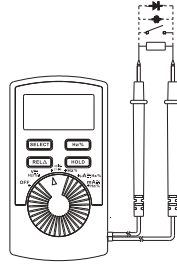

Figure 5
**5. Testing Diodes and Continuity(See Figure 5)**